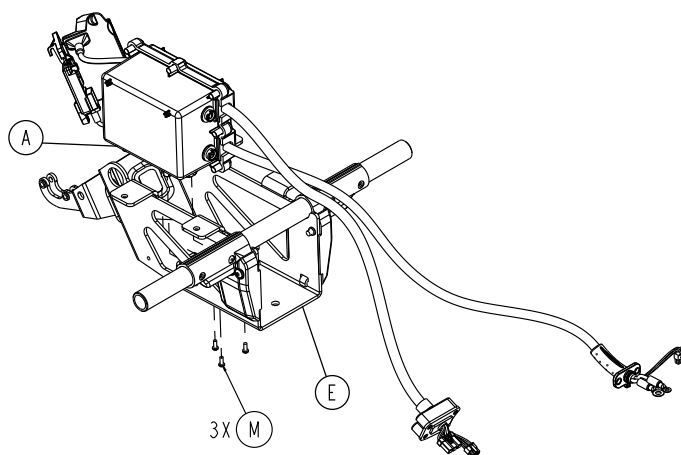

Figure 57 – Remove the HBC enclosure assembly screws
6. Using a T20 Torx driver, remove the three pan head tapping screws (M) that secure the HBC enclosure assembly (A) to the birdcage (E) (Figure 57). Save the screws.